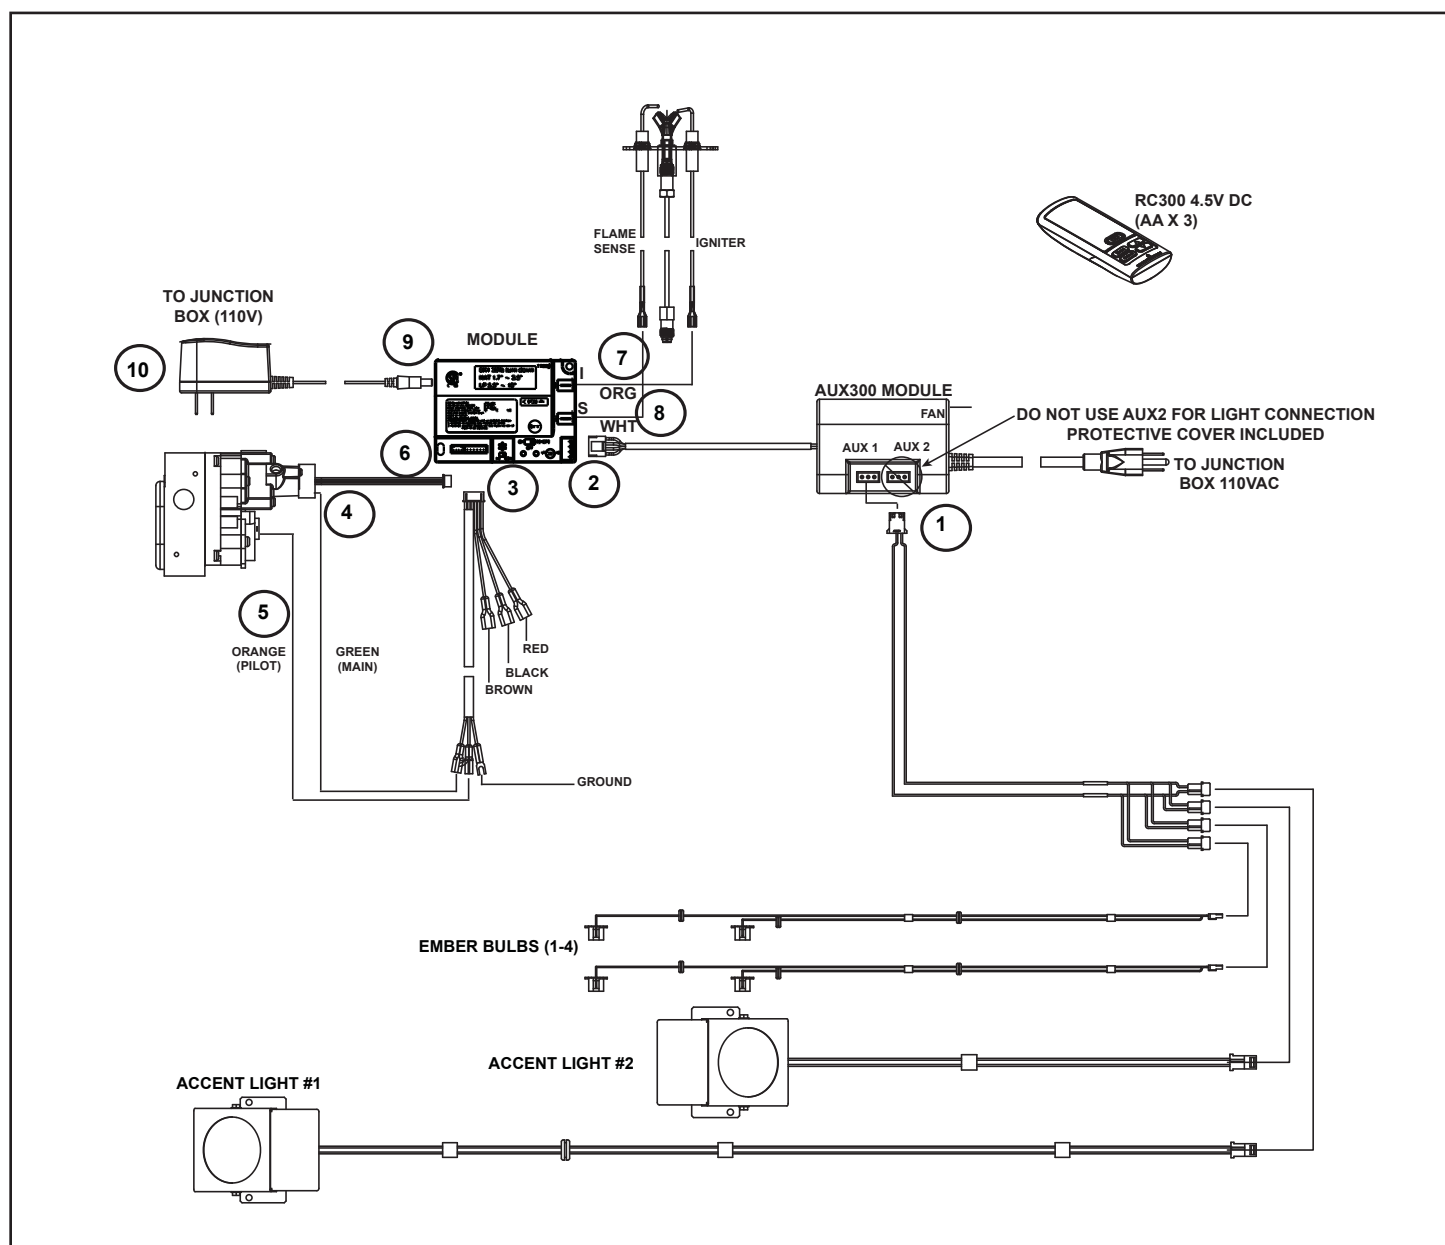

Figure 3. Reconnect Components
8. Refer to Figure 3 and reconnect the components in this order: